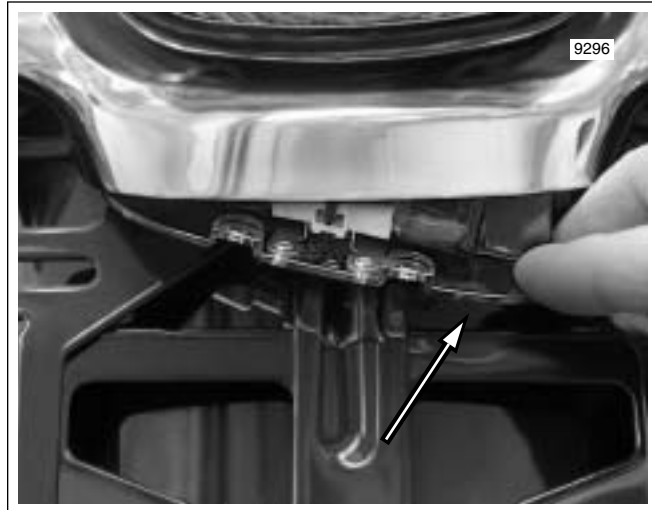

Figure 8-67. Release Lamp Assembly
2. See Figure 8-67. Exercising caution to avoid stressing wires, carefully pull down lamp assembly only as far as necessary to access bulbs. Remove bulbs from sockets.
2. See Figure 8-67. Exercising caution to avoid stressing wires, carefully pull down lamp assembly only as far as necessary to access bulbs.